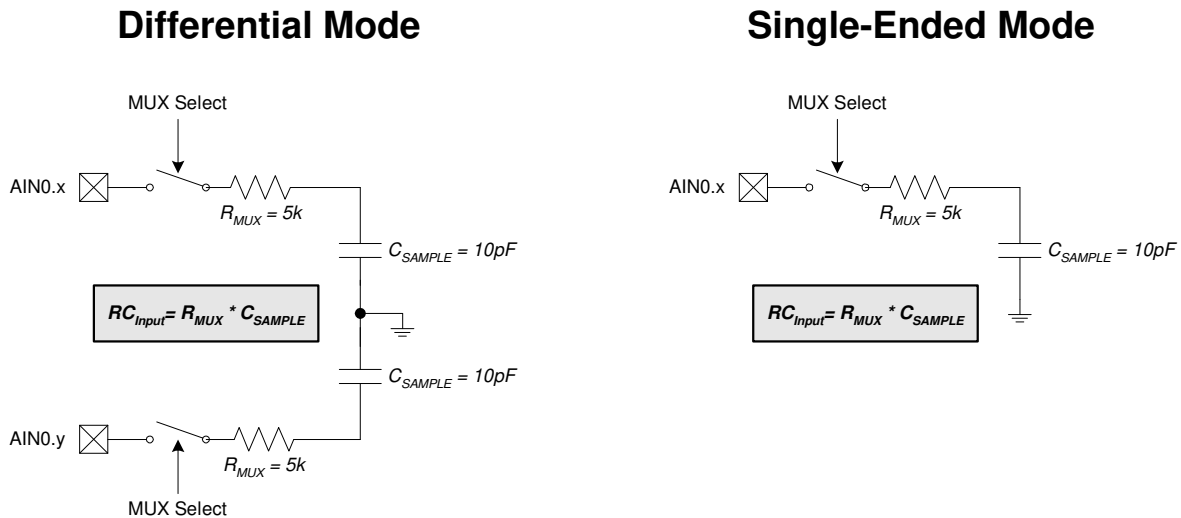

Figure 5.4. ADC0 Equivalent Input Circuits
A minimum tracking time is required before an accurate conversion can be performed. This tracking time is determined by the ADC0 MUX resistance, the ADC0 sampling capacitance, any external source resistance, and the accuracy required for the conversion. Figure 5.4 shows the equivalent ADC0 input circuits for both Differential and Single-ended modes. Notice that the equivalent time constant for both input circuits is the same. The required settling time for a given settling accuracy (SA) may be approximated by Equation 5.1. When measuring the Temperature Sensor output, R_{TOTAL} reduces to R_{MUX} . An absolute minimum settling time of $1.5 \mu s$ is required after any MUX or PGA selection. Note that in low-power tracking mode, three SAR clocks are used for tracking at the start of every conversion. For most applications, these three SAR clocks will meet the tracking requirements.